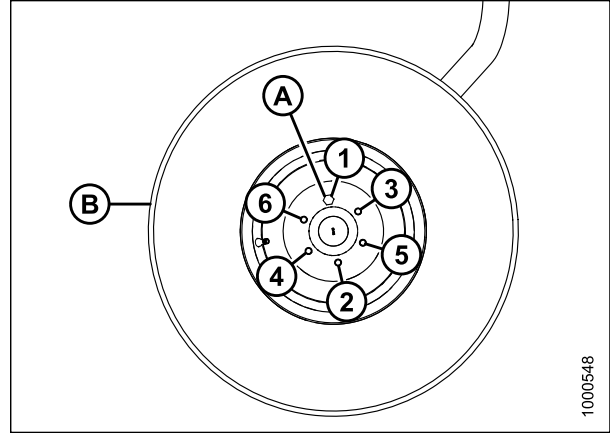

Figure 5.229: Formed Caster Wheel Nut Tightening Sequence
Wheel bolt (A) tightening sequence for a **formed** caster wheel (B) shown in Figure 5.229, page 416.